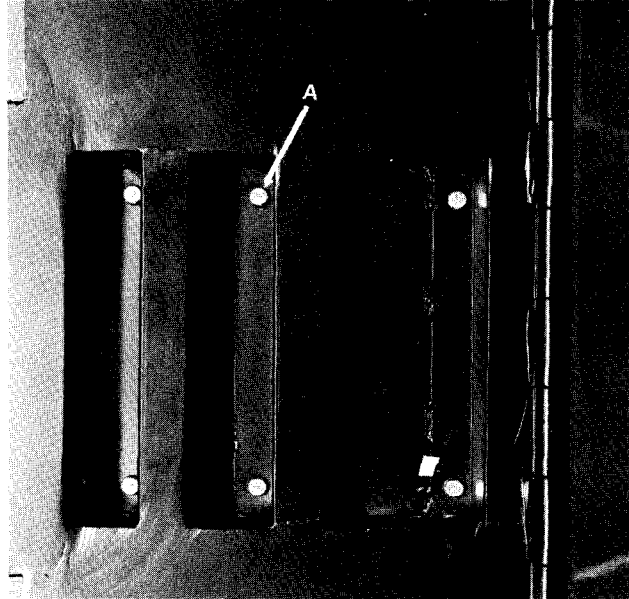

Fig. 23
- 9) While an assistant is holding the back section in a vertical position, remove the 6 bolts with 7/16" socket wrench (Item A, Fig. 23) from inside the seat section.